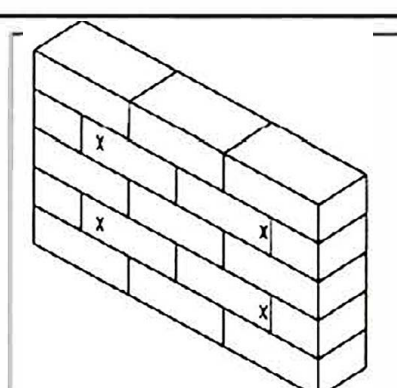

Fig. 4
- 2** While another person holds the mount in place, mark four locations on the wall for securing the mount (see Fig. 4).